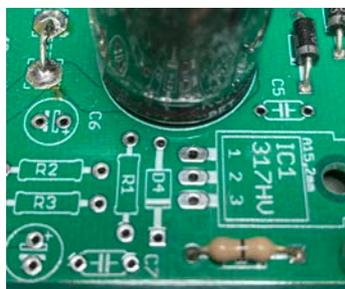

Figure 1
- 1) Solder a strap on the PCB as shown in figure 1.
Replace D3 by a Strap (0R) as shown in figure 1.